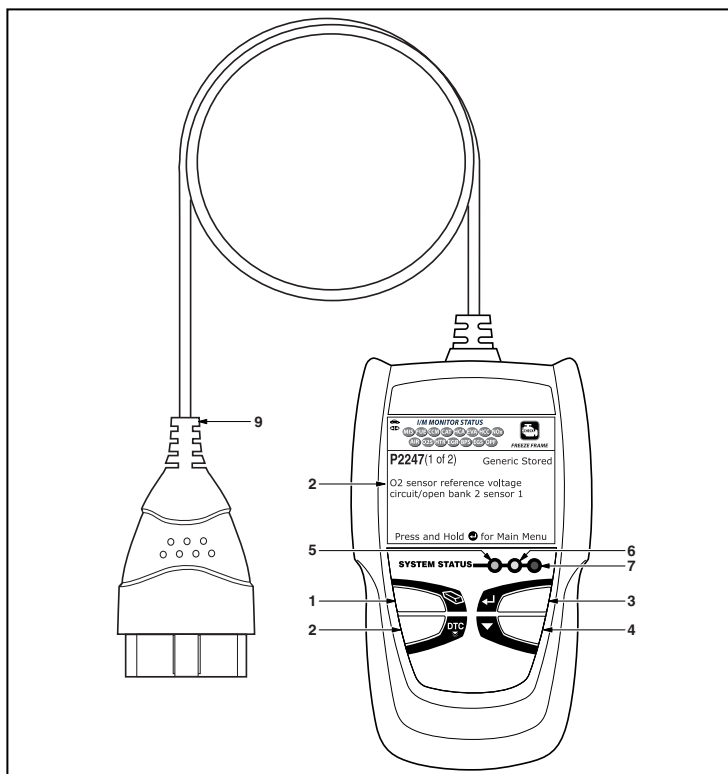

Figure 1. Controls and Indicators
See Figure 1 for the locations of items 1 through 9, below.